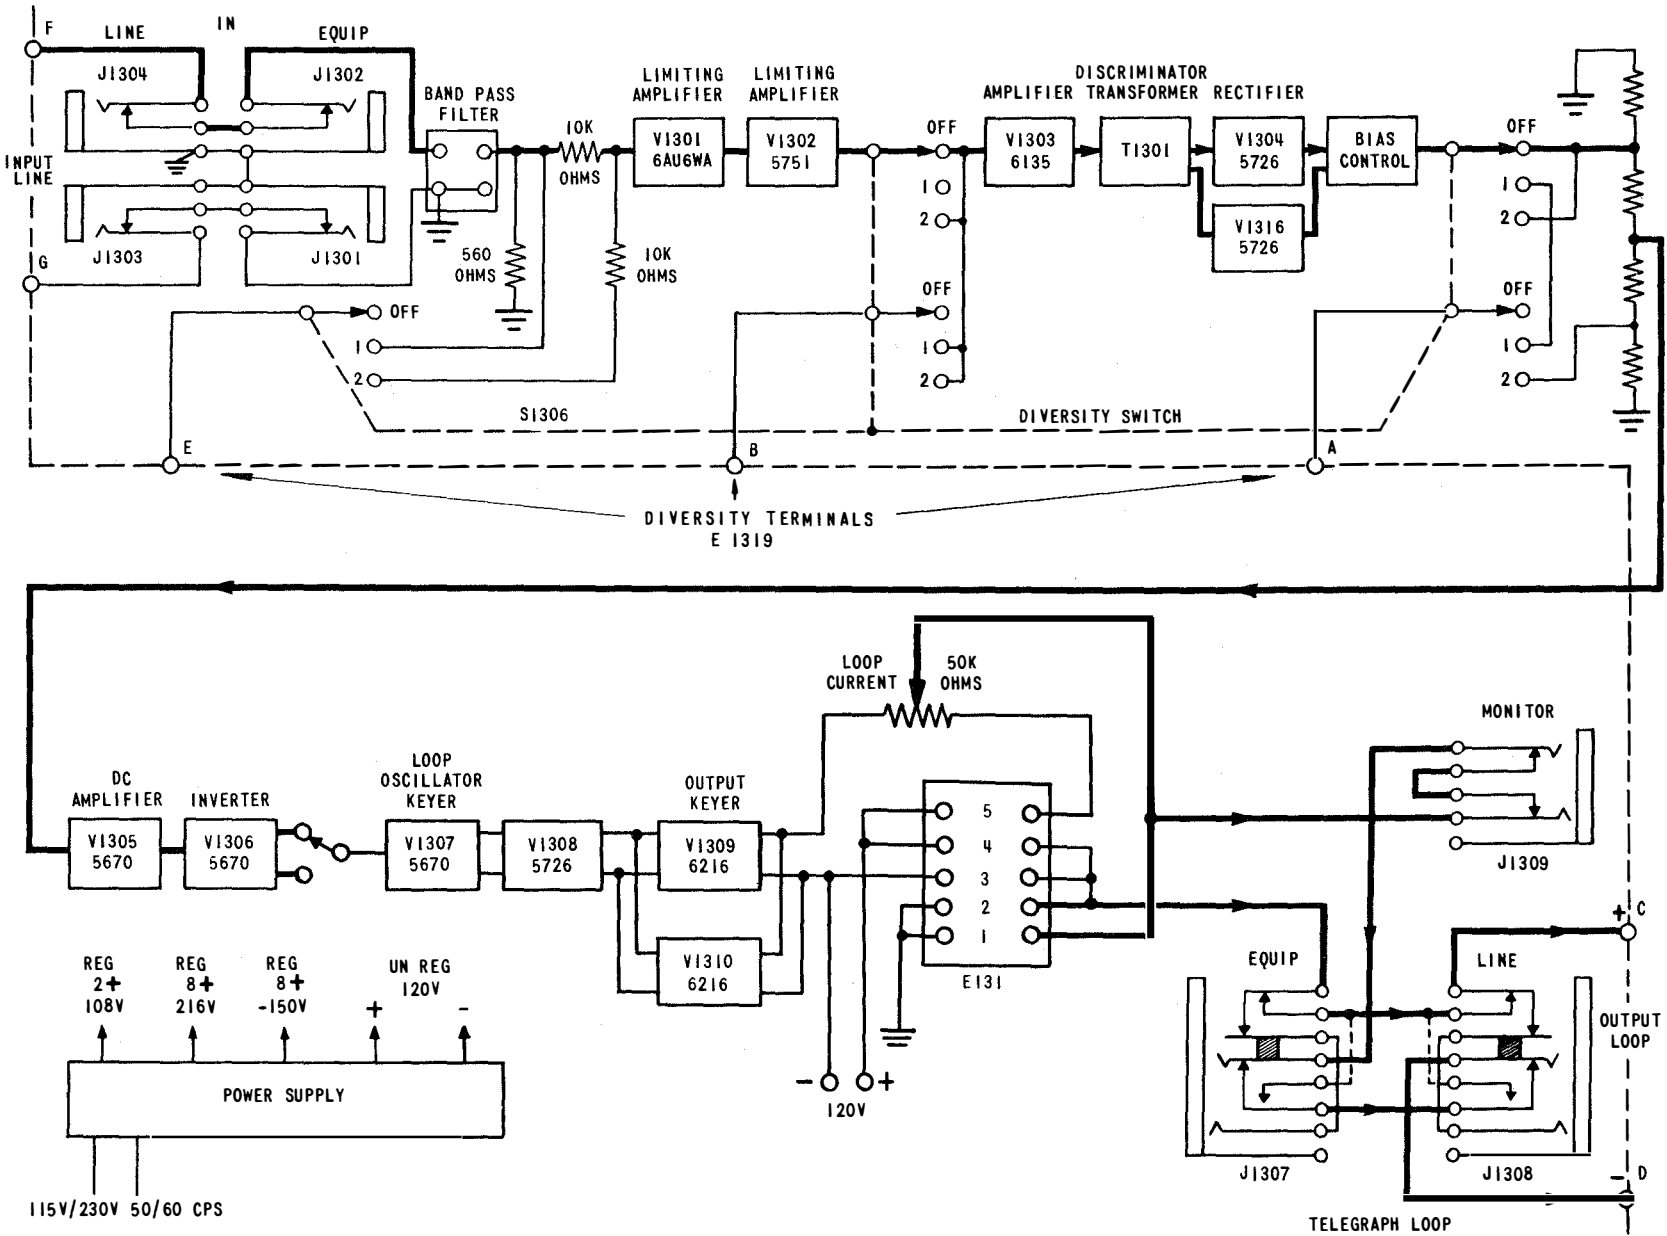

Figure 2-8. Block Diagram of Telegraph Carrier Receivers R-525A/FCC-3 through R-536A/FCC-3
a. GENERAL. The principal circuits of the telegraph carrier receivers are shown on the block diagram of figure 2-8. The carrier signal enters the equipment through the IN LINE and IN EQUIP jacks none of which are grounded. The input band-pass filter is designed to accept and pass one carrier frequency with its corresponding MARK and SPACE frequencies and attenuate the signal frequencies of adjacent channels by more than 40 db. From the filter, the signal passes through the limiting amplifiers V1301 and V1302 and appears as an output of essentially constant amplitude for any input signal between -40 to +6 dbm. This output is then amplified by V1303 and applied to the discriminator transformer T1301. The output from the two tuned secondaries of T1301 are rectified by the diodes V1304 and V1316 and so combined that the DC output is positive for a SPACE signal and negative for a MARK signal. The telegraph bias of the signal is adjusted by setting the operating point on the grid of DC amplifier V1305. Diversity connections are provided at the input and output of the limiting amplifier and at the input of the DC amplifier. The signal output of tube V1305 is amplified and inverted with tube V1306 and applied to the grid of loop oscillator keyer tube V1307. Tube